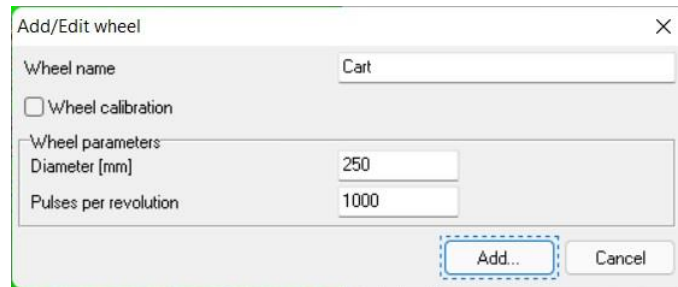
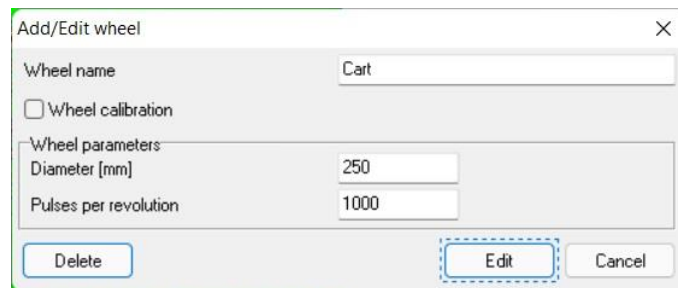

Fig.8.2. Survey wheel adding
Fig.8.3. Survey wheel editing
- **Parametric** - the software allows adding (fig. 8.2), editing (fig. 8.3) or selecting previously added wheel. The main parameters of the wheel are diameter (in mm) and number of pulses per revolution, which you will find on the wheel.